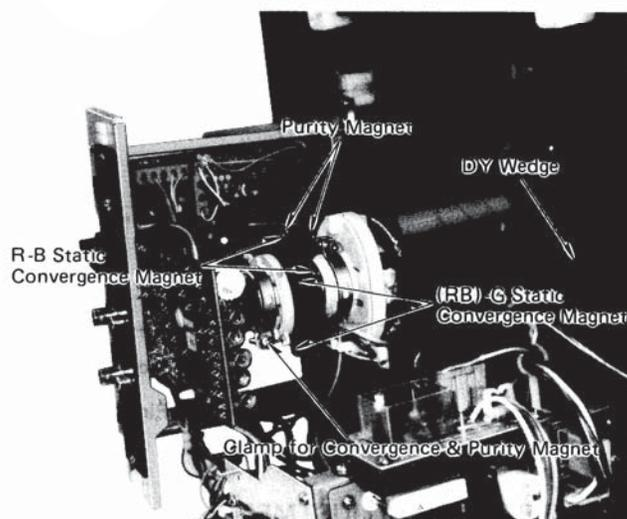

Figure 10
7. Loosen the purity magnet clamp (See figure 10) and adjust the purity magnet to set the vertical green raster precisely in the center of the screen. (See figure 12.) Tighten the clamp.
4. Align the convergence red/blue dots with the green dots in the center of the screen, by rotating the (RB)-G Static Convergence Magnet. (See figures 10 and 14.)
6. Remove the DY wedges (See figure 10) and slightly tilt (do not rotate) the deflection yoke horizontally and vertically to obtain good overall convergence.
3. Loosen the convergence magnet clamp and align the red and blue dots at the center of the screen, by rotating the R-B Static Convergence Magnet. (See figures 10 and 14.)